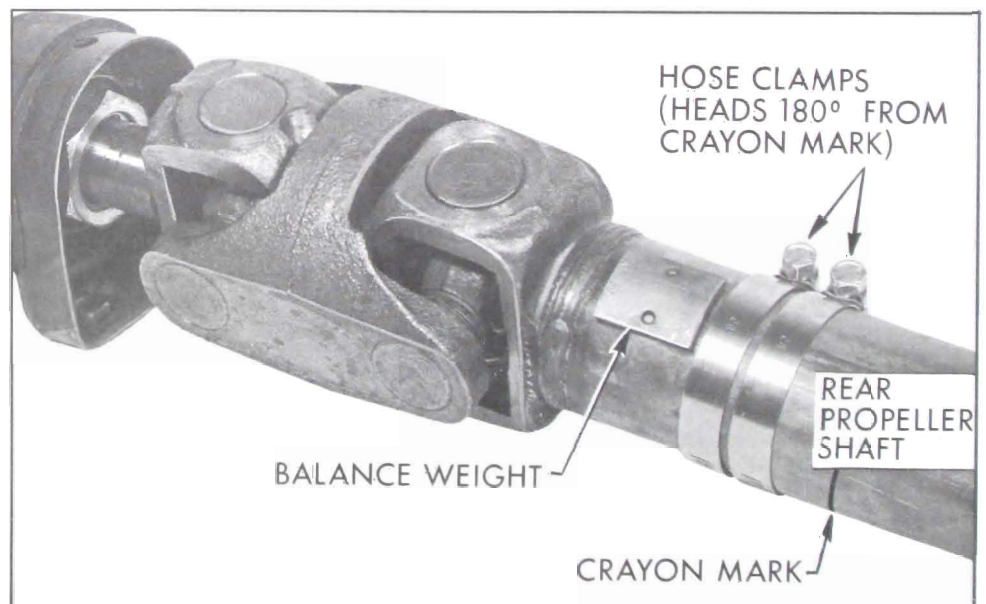

Figure 6-117—Hose Clamps in Place Opposite Crayon Mark
5. Place the two hose clamps side by side with the heads together and 180° from the crayon marking. See Figure 6-117. Tighten the clamps.